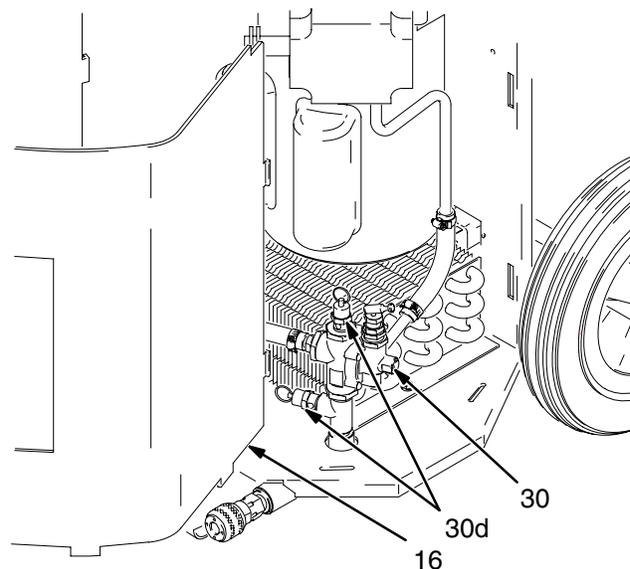

Fig. 10 7074A
- A compressor unloader valve (30) with two pressure relief valves (30d) is located under the compressor guard (16). Air escapes from the valve, causing a popping sound, when air flow at the gun is too restricted. The valve resets automatically when the air flow is increased. See Fig. 10.